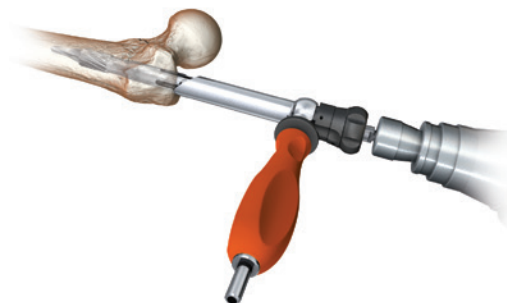

Figure 9
8. Advance the assembly through the Entry Portal instrumentation 2–3cm into the trochanteric region (Figure 9). Evaluate reamer position before proceeding.